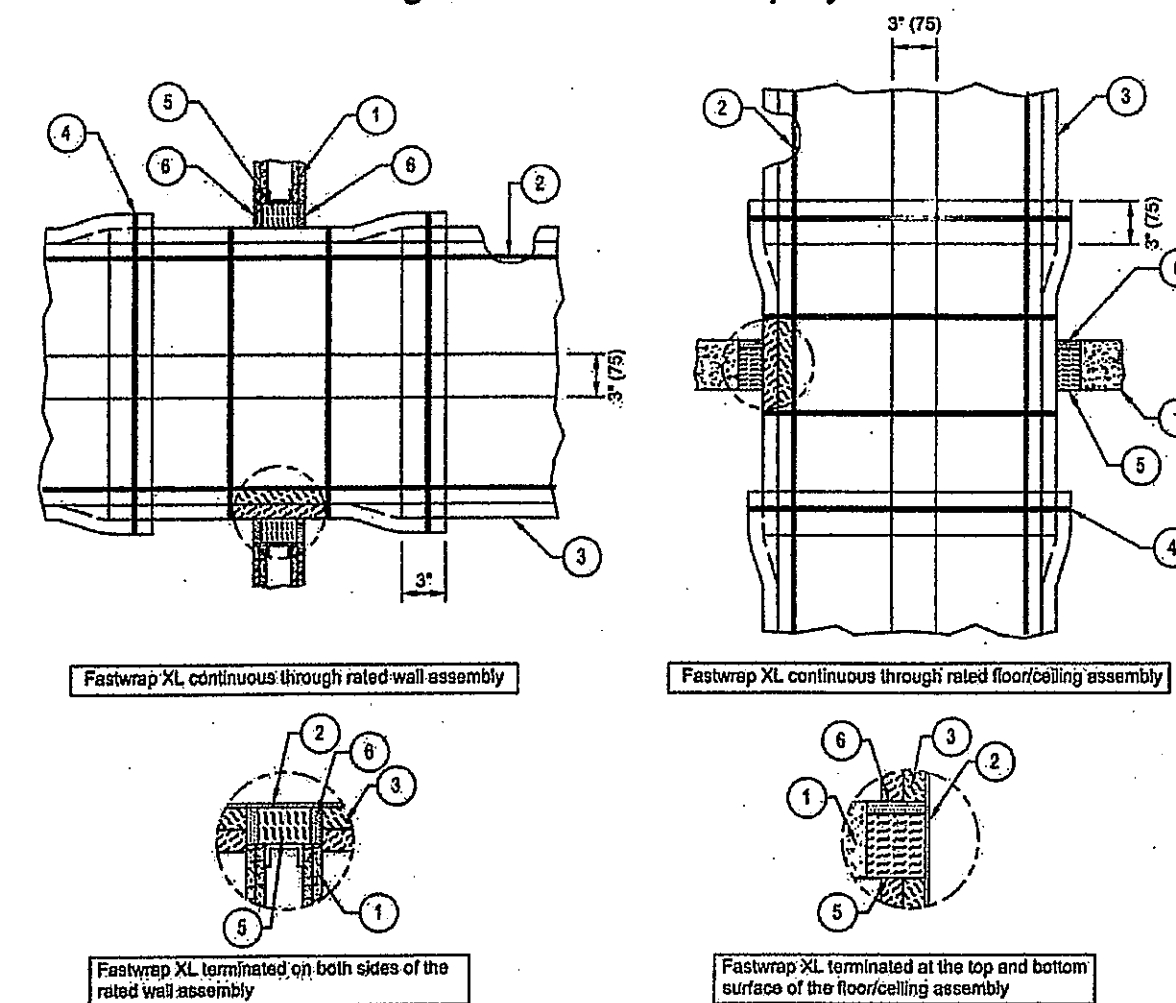

FIGURE 2
F. Through Penetration Firestop System (Figure 2) - When the duct penetrates a fire rated assembly an approved fire stop system must be employed. Figure 2 provides a complete list of UL / ULC firestop design listings which can be found in the Certifications Directory at www.ul.com for US systems and www.ulc.ca for Canadian systems. Prior to installing any firestop system the surfaces of all openings and penetrating items must be clean and dry. The FastWrap XL core blanket (or mineral wool where allowed by the firestop design listing) must be compressed into the annular space. The packing material must be recessed a minimum depth from the surface of the concrete or gypsum assembly. The recessed opening must be filled with a minimum thickness of an approved firestop sealant. The packing material type and compression, minimum recess (typically 1/4" (6mm)), and approved firestop sealant and thickness (typically 1/4" (6mm)) shall be as specified in an approved UL / ULC firestop design listing. When there is not sufficient annular space around the duct to run the FastWrap XL enclosure system continuous through the fire rated assembly, the enclosure may terminate above and below the floor/ceiling assembly or on either side of a wall assembly as shown in Figure 2. When this method is used, the FastWrap XL must be mechanically attached on either side of the fire rated assembly using one of the attachment methods described in Section D, spaced a maximum of 1-1/2" (38mm) from the fire rated assembly.